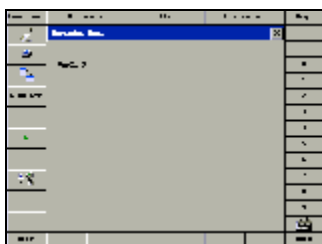

Fig.3.8
4. Select Mercedes Benz icon to enter the MB system as shown in Fig. 3.8.